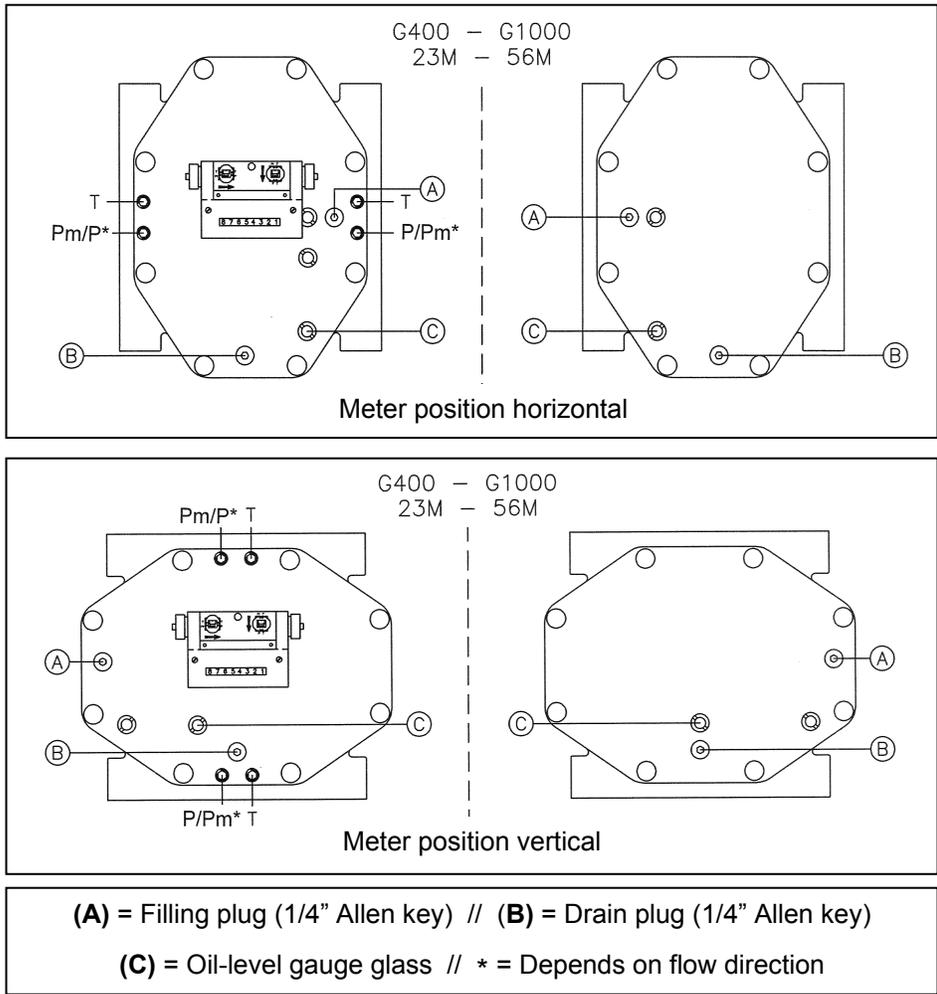

Figure 5: Permitted operating positions of oil filling and oil-level display
- At **each side** of the meter there is **one** opening available for filling oil (plug A) or draining oil (plug B). There is **one** oil-level gauge glass (C) in use on the front **and one** on the rear side of the meter (Figure 5).
- Unscrew and remove the oil filler plug (A) (Figure 5), from the front and rear housing cover.